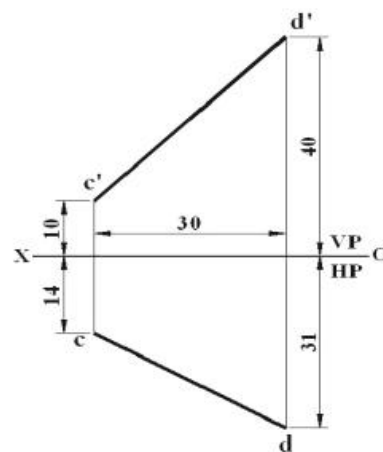

Figure T4.2
6. Orthographic projection of a line is given in **Figure T4.2**. Determine their true lengths and inclinations with the VP using: a) Revolution method and b) Auxiliary view method